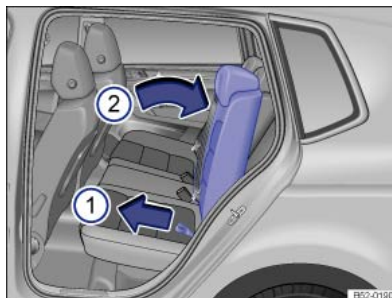

Fig. 85 Adjusting the rear bench seat backrest.
- Push down on the left-hand or right-hand side of the backrest with one hand and simultaneously pull on the corresponding loop with the other hand ⇒ Fig. 85 ⌚.
- Adjust the rear seat backrest to the required position with your hand against the spring pressure ⇒ Fig. 85 ②.